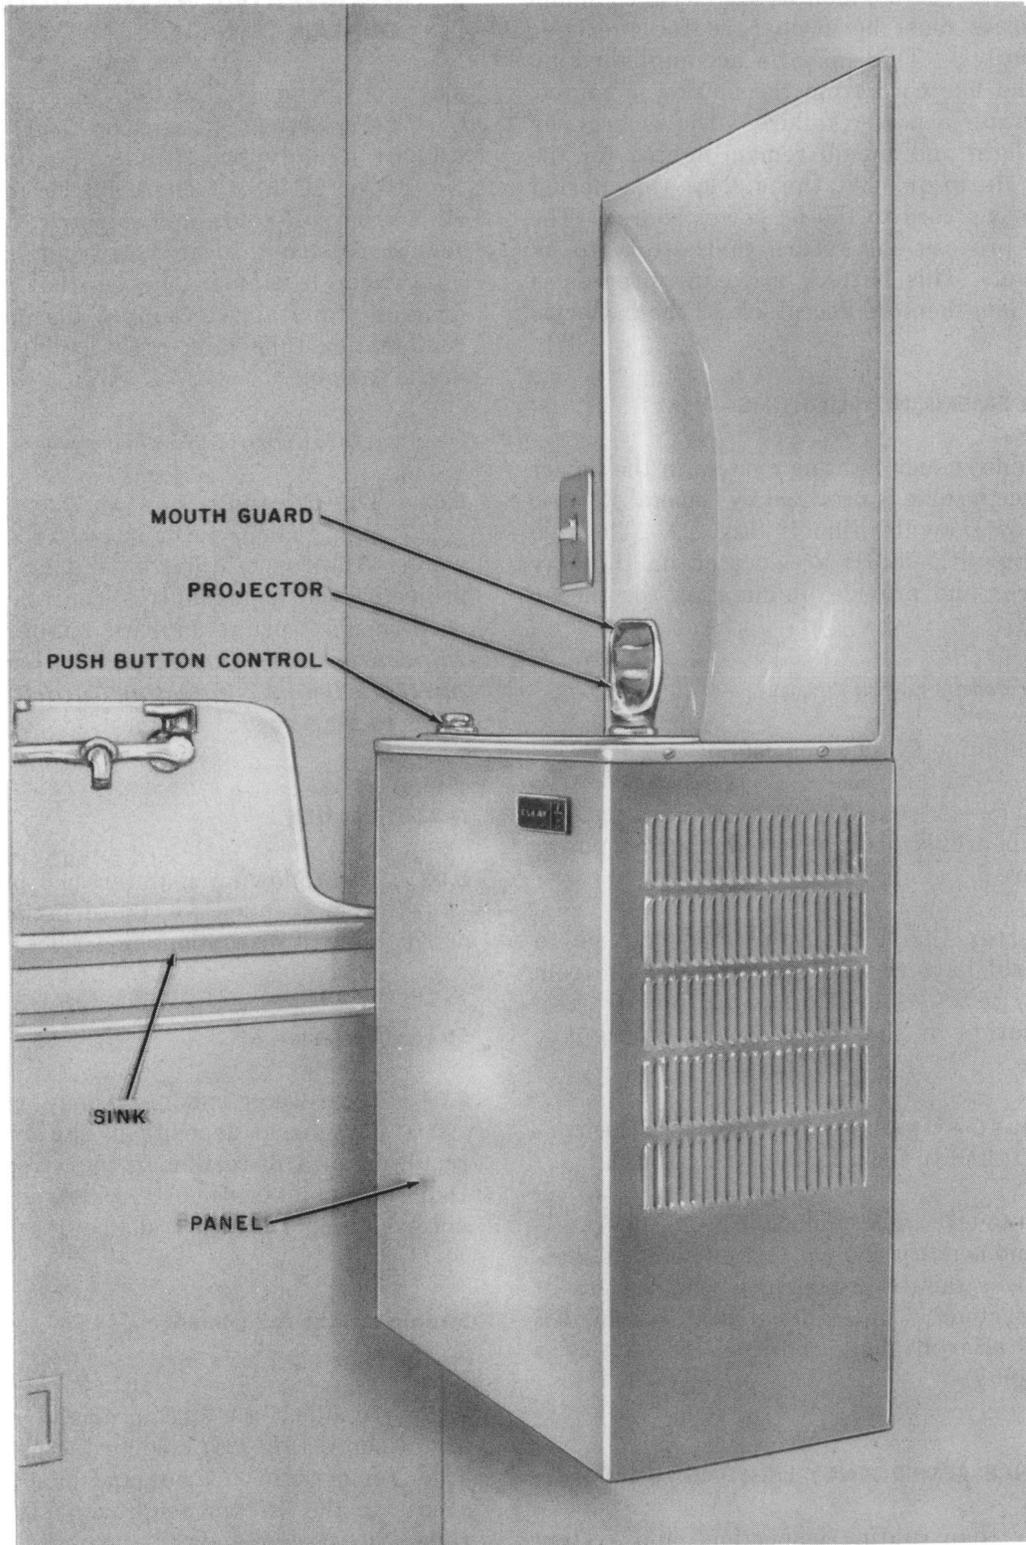

Fig. 30—Elkay Refrigerated Water Cooler Drinking Fountain (Model ESR-8)
8.01 A refrigerated water cooler drinking fountain (Fig. 30) manufactured by Elkay* Manufacturing Co., of Broadview, Illinois, is provided in the No. 2A or 2C ESS. The drinking fountain, Model ESR-8, is self-contained, electric, wall-mounted, semirecessed unit located adjacent to the sink and hot water heater in the control module. The drinking fountain contains a hermetically sealed combination tube tank type cooling unit enclosed in the cabinet.